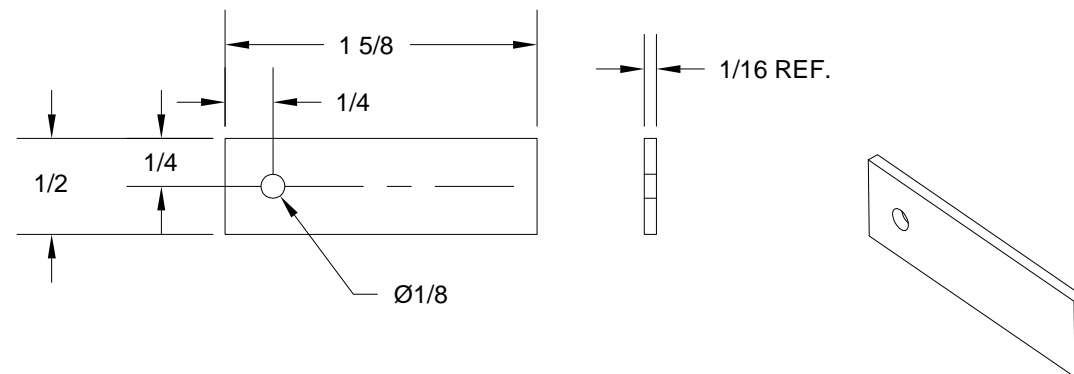

FIGURE 1: FABRICATE SPACER
Step 1: Fabricate the F-1063C Spacer from AS3-063 as shown in Figure 1. Draw a horizontal centerline to use as a guide when match-drilling the part in the next step.